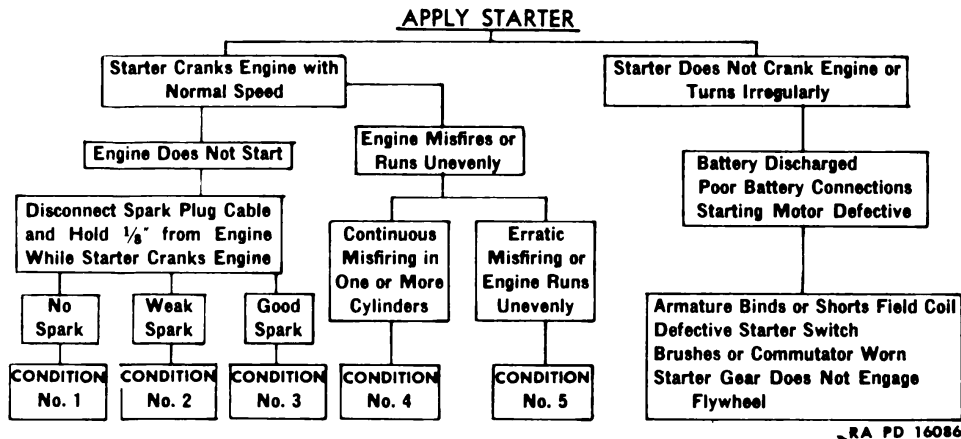

Figure 126—Operation Trouble-Shooting Chart
b. Operation Trouble-Shooting Table. Engine operating trouble may be classified under three general conditions. These are, (1) failure to start, (2) misfiring, and (3) uneven running. Chart, Fig. 126, shows systematic analysis to determine which condition in Table applies.